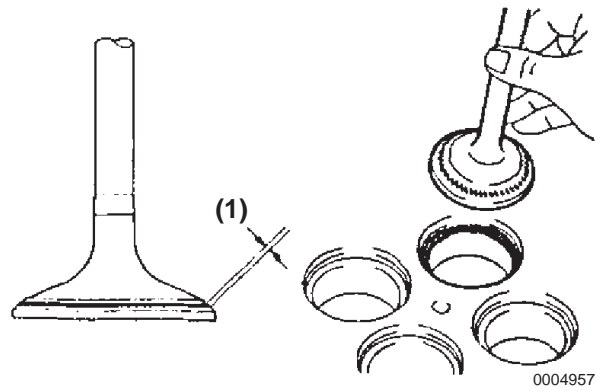

Figure 5-32
2. Check the valve seat for poor contact (**Figure 5-32**). Apply a light coat of prussian blue (or white lead) on the valve face. Lightly press the valve onto the seat, without rotating the valve.